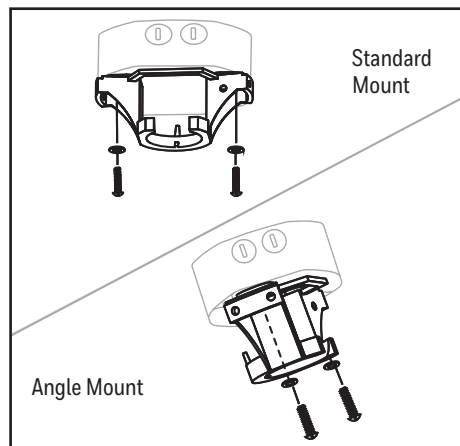

Figure 2.2
2. Install the mounting bracket to the outlet box (not included) using the screws and washers provided with the outlet box. **WARNING:** To reduce the risk of fire, electric shock, or personal injury, mount to the outlet box marked "acceptable for fan support" and use the mounting screws and washers provided with the outlet box (Figure 2.2).